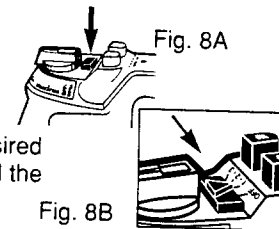
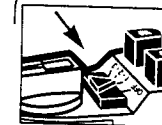

Fig. 8A
Fig. 8B
- Lower the Steam/Dry Button* to the dry position (Fig. 8A) or slide the Adjustable Steam Control* to OFF position (Fig. 8B).